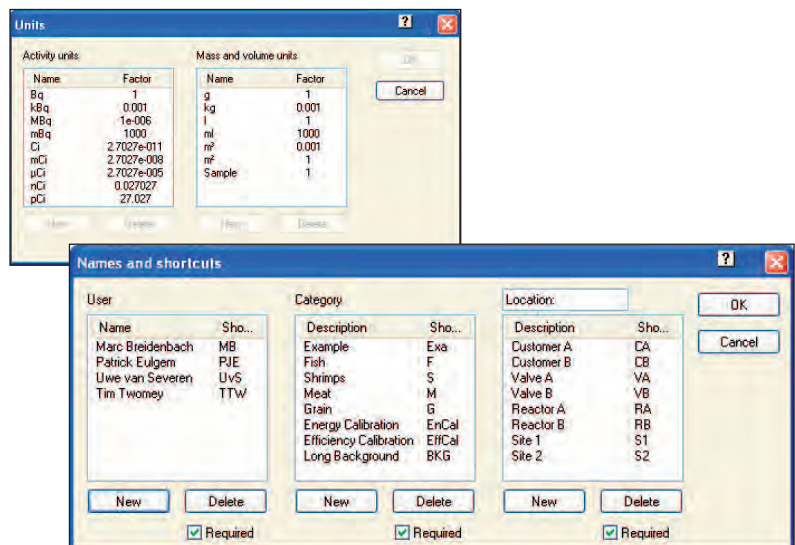

Figure 6. System Settings, Including "Units" and "Name" Settings.
The Global or System Settings (Figure 6), under administrator control, apply to the system as a whole and relate to the operational preferences of the laboratory itself. They apply to every sample. Activity and mass/volume units can be defined as well as a set of “Names”: User, Category and a third definable classification (shown above as “location,” but which equally could be “customer name” etc.). These can be defined as mandatory selections for the operator and appear on the output report.
- Administrator-defined name (location in Figure 6)